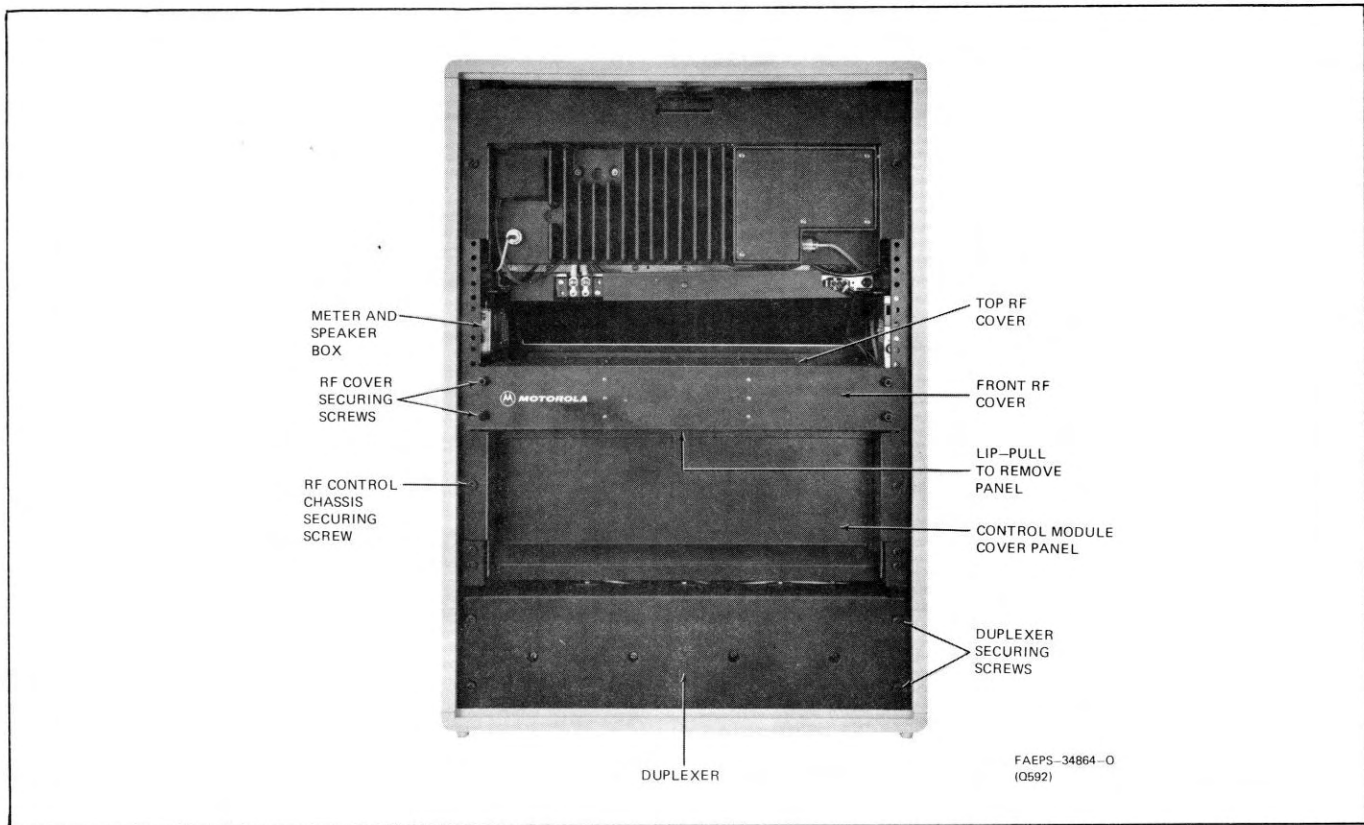

Figure 6. Fully Optional Intermittent Duty Station Chassis Access
5.4.2.1 To remove the front rf cover, remove 4 Phillips head screws (with plastic covers) as shown in Figures 6 and 7. The exciter and receiver boards may now be removed by pulling the ejector handles and then pulling the boards out of the chassis.